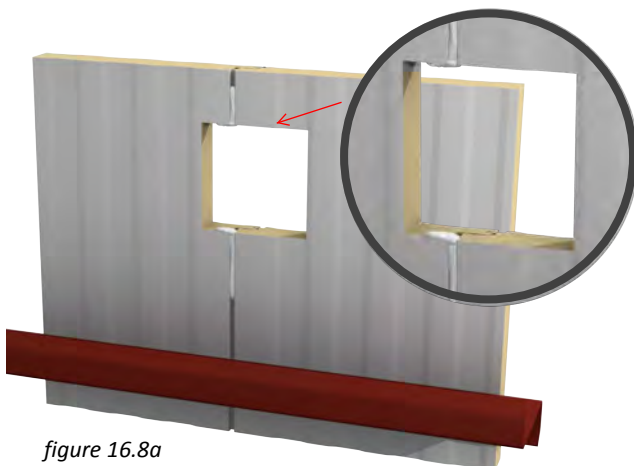

figure 16.8a
- plug interior joint above and below opening with butyl sealant (figure 16.8a)